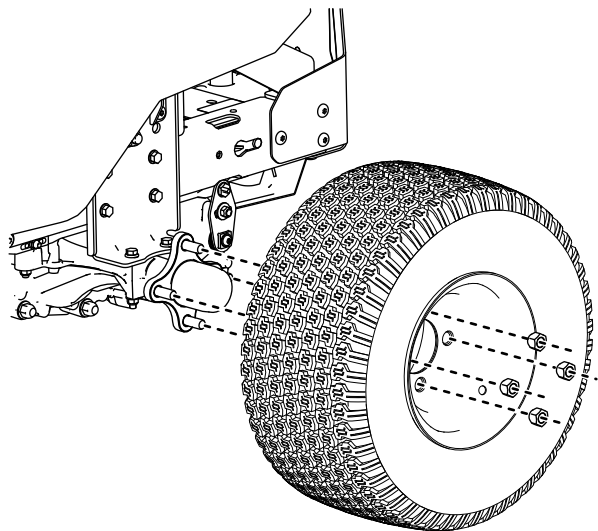

Figure 2
11. Remove the rear tires as shown in Figure 2.